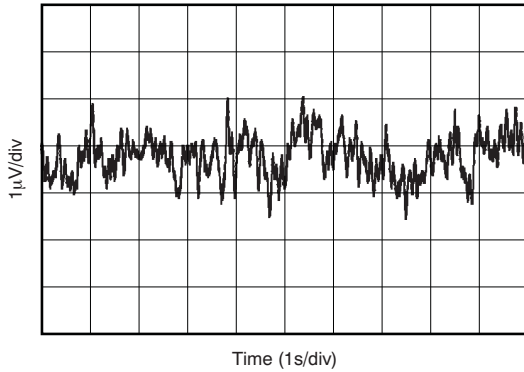

Figure 13. 0.1- to 10-Hz Noise
0.1Hz to 10Hz Noise	<a href="#">Figure 13</a>